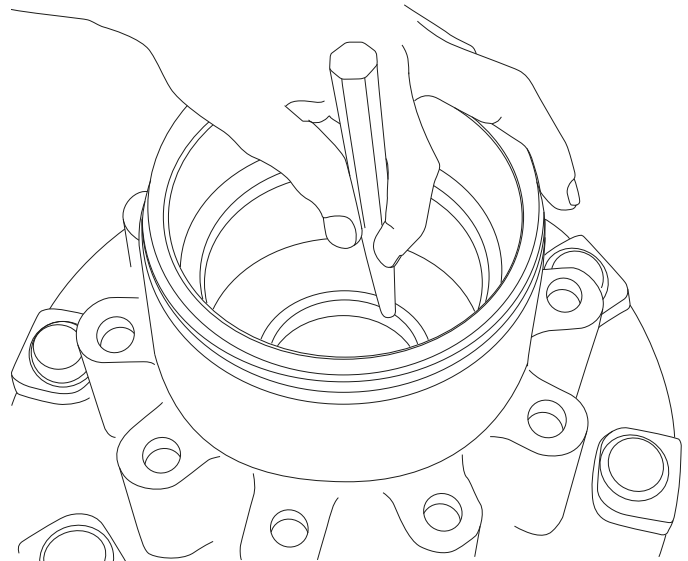

Figure 96: Remove Bearing Cups with a Punch
5. Drive the bearing cup out of the hub from the other side of the hub with the punch. Refer Figure 96.